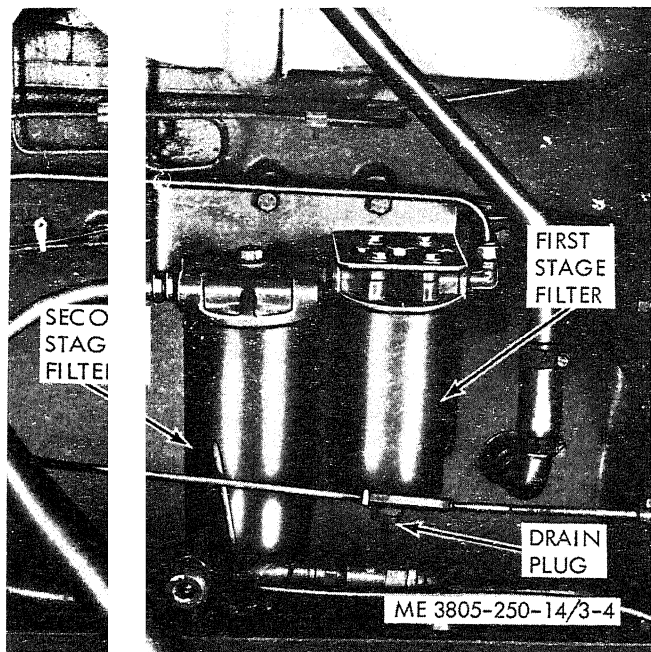

Figure 3-3. Checking fuel level.
a. *Adding Fuel.* Check the level of fuel in the fuel tank by withdrawing the dipstick (fig. 3-3). Add fuel as necessary to bring the level up to the "FULL" mark. Always clean the filler neck area before removing the filler cap. Fill the tank at the end of each work day to help prevent moisture from collecting in the fuel system. Fuel tank capacity is 74.2 gallons.